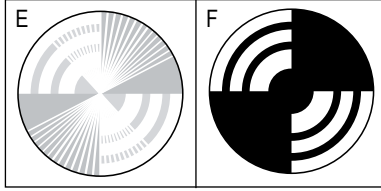

Figure 15
The brush indicator will spin (E) when the cleaner is turned on and the brushes are rotating. If the indicator does not spin (F) and the pattern is visible when the cleaner is turned on, the brushes are not rotating. (See Figure 15)